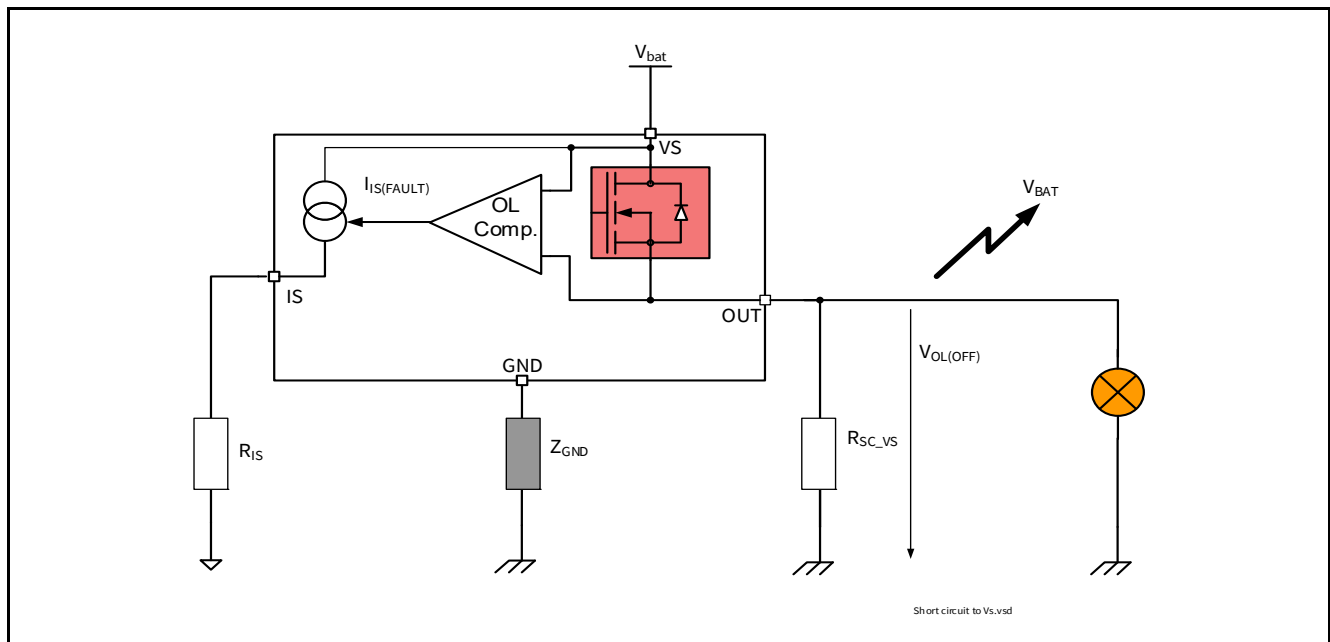

**Figure 25 Sense Signal in Open Load Timing**
**Figure 25** shows the timing during either Open Load in ON or OFF condition when the DEN pin is HIGH. Please note that a delay  $t_{sIS(FAULT\_OL\_OFF)}$  has to be respected after the falling edge of the input, when applying an open load in OFF diagnosis request, otherwise the diagnosis can be wrong.